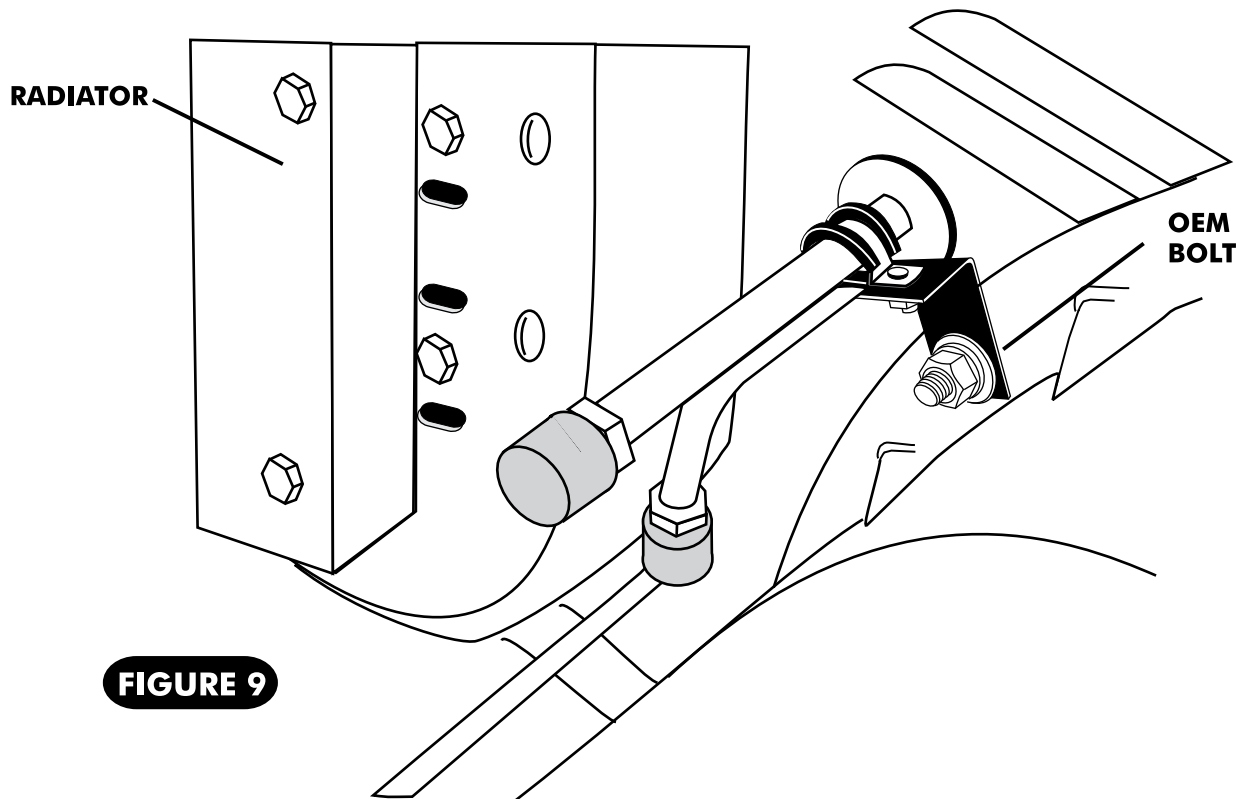

FIGURE 9
- ☐ 8. SECURE THESE LINES TO CORE SUPPORT WITH SUPPLIED ADEL CLAMP AND BRACKET (SEE FIGURE 9, PAGE 12).